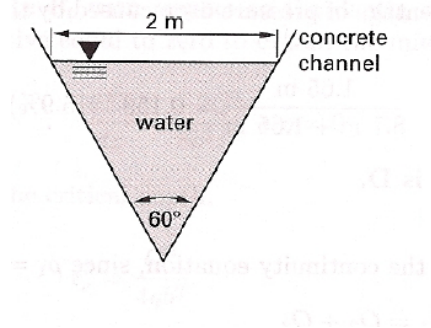

Figure 2: Triangular channel.
6. (12 pts.) A smooth concrete channel ($n=0.012$) is depicted in Figure 2. The channel's dimensionless slope in the direction of flow is 0.008. If the flow width at the surface is 2-meter, what is the flow rate in the channel using Manning's equation?